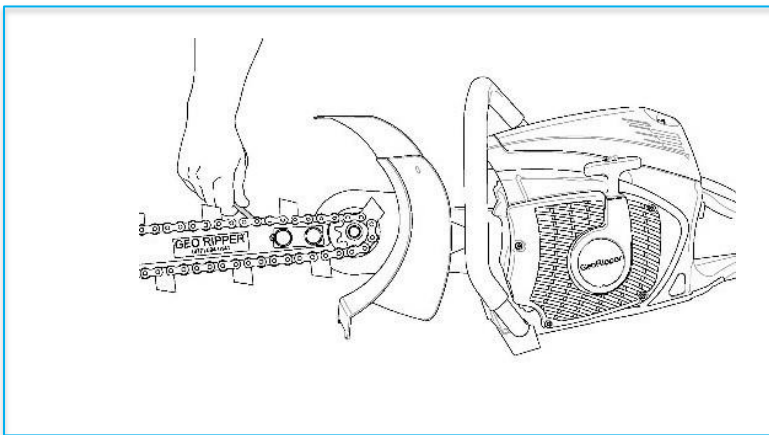

Fig.12
9. From the other side of the drive sprocket, insert a flat end screw driver into the digging bar tensioning slot and use as a lever to tension the chain (Fig.12)